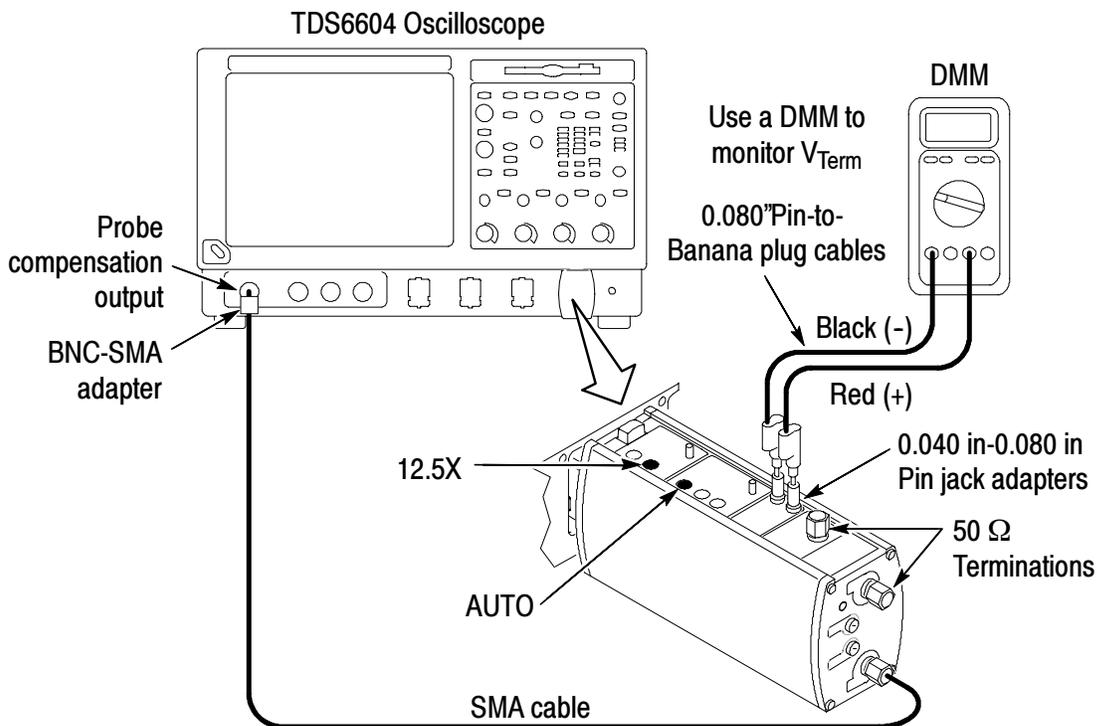

Figure 4: Signal check setup
Next, perform the Signal and Termination Voltage Monitor Check. This test uses the PROBE COMPENSATION output on the front panel of the oscilloscope to verify that the probe input circuits function. The termination voltage monitor output is also checked, using a DMM. Figure 4 on page 16 illustrates a typical setup.
4. Set the DMM to measure DC voltage and connect it to the Vterm monitor jacks using the 0.040 in-to-0.080 in adapters and the 0.080 in pin-to-banana plug test leads included with the probe. The test setup is shown in Figure 4.